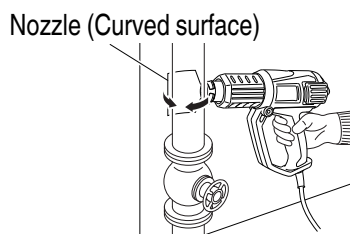

Fig. 11
6. Defrosting water pipes (**Fig. 11**)